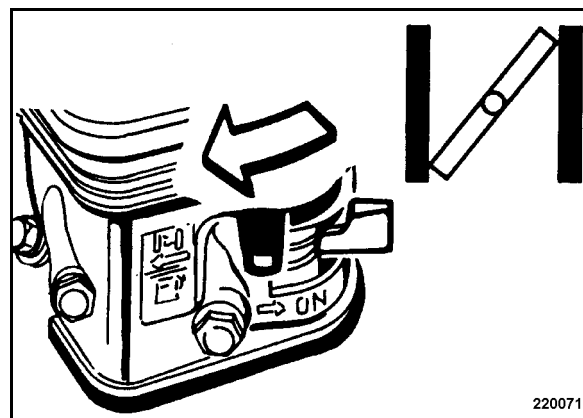

Fig. 12
- Close the choke completely by shifting the lever (Fig. 12) in direction of arrow against the end stop.